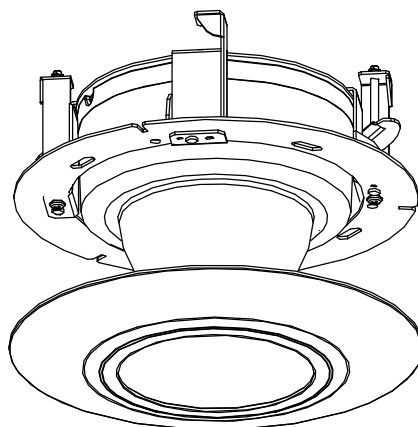

Figure 2-29 Assemble the Trim Ring
5. Fix the trim ring with the bubble and the trim ring will be attached to the in-ceiling bracket automatically, as shown in Figure 2-29.